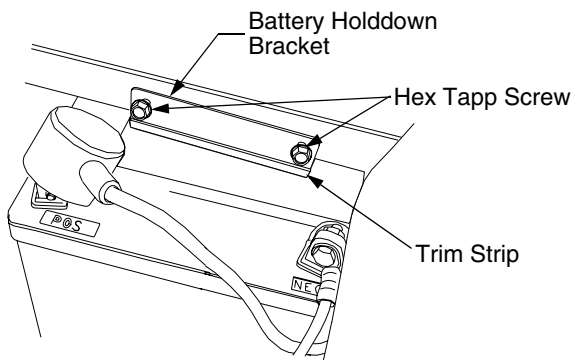

Figure 24
- Remove the two hex tapping screws from the battery holddown bracket and remove the bracket. Use care to avoid losing the trim strip from the bottom of the bracket. See Figure 24.